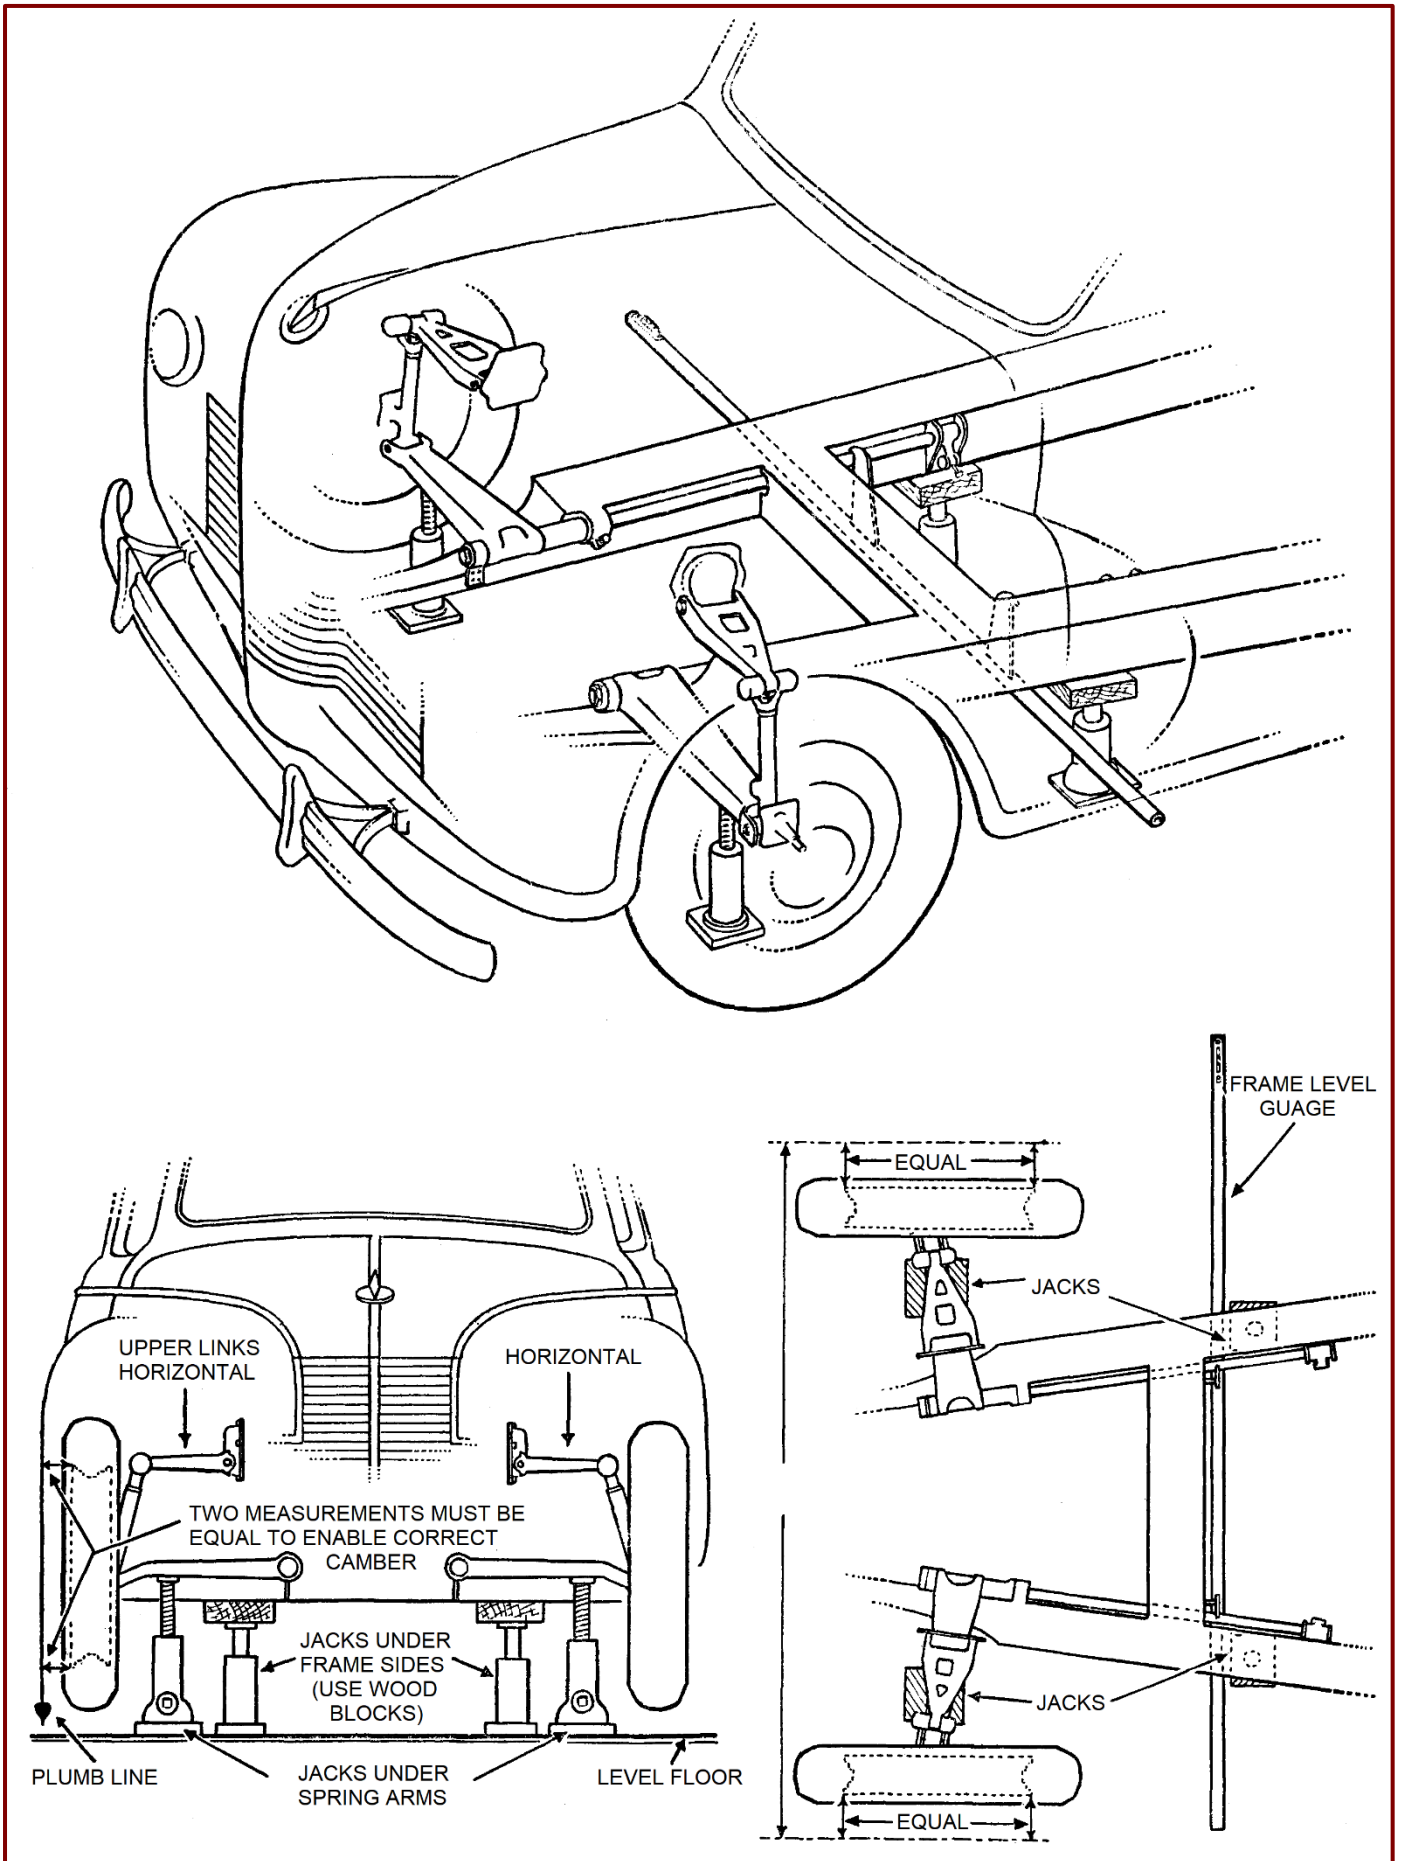

Figure 66. Track and Camber Check.
3. Set the car level (*Figure 66*, Page 67). To do this, jack up the front of the chassis, using a screw type jack under each frame side member at the gearbox cross member, so that the underside is approximately 9¾" (247.8 cm) from the ground. This distance will, of course, be governed by the adjustment necessary to level the car transversely. The level gauge is essential for this purpose. (Refer to *Figure 67*).